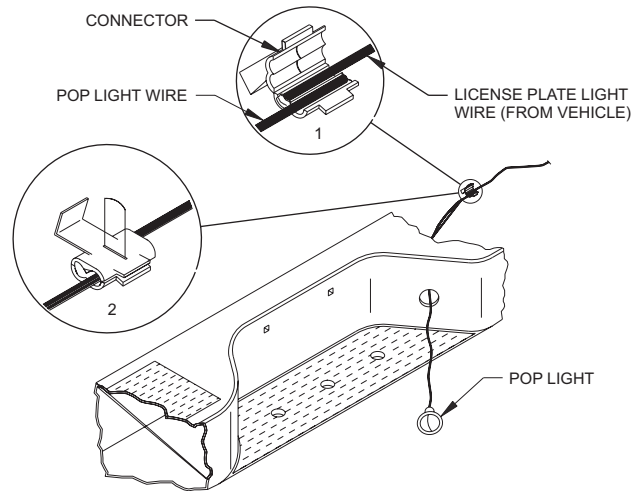

FIGURE 4
- STEP 5: Install pop lights into bumper (figure 4). Using supplied connectors, Splice pop light wires into truck illumination wire as shown in figure 4. Verify that license plate lights are working properly.